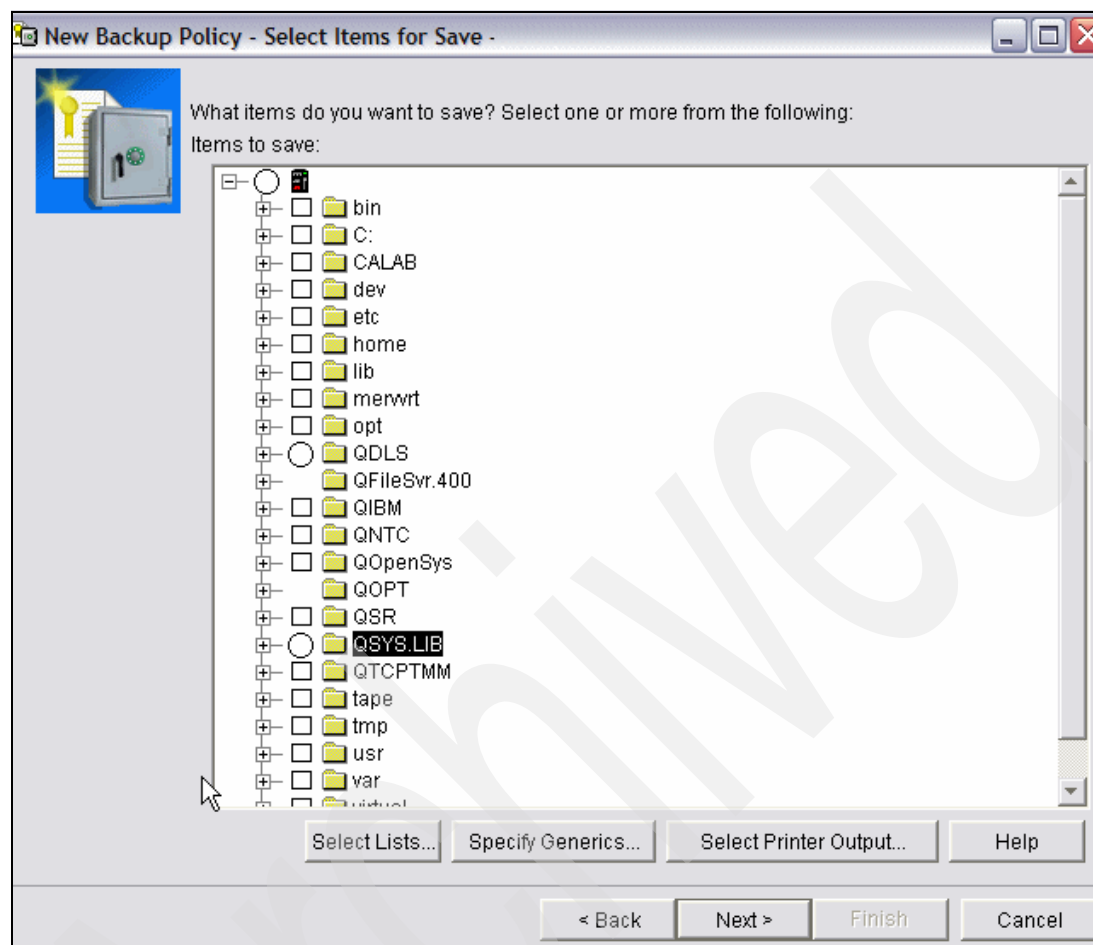

Figure 7-18 Select items for save
5. In the window shown in Figure 7-18 on page 350, you can select either of the options. In this scenario, select **Specify Generics...**, and then click **Next**.